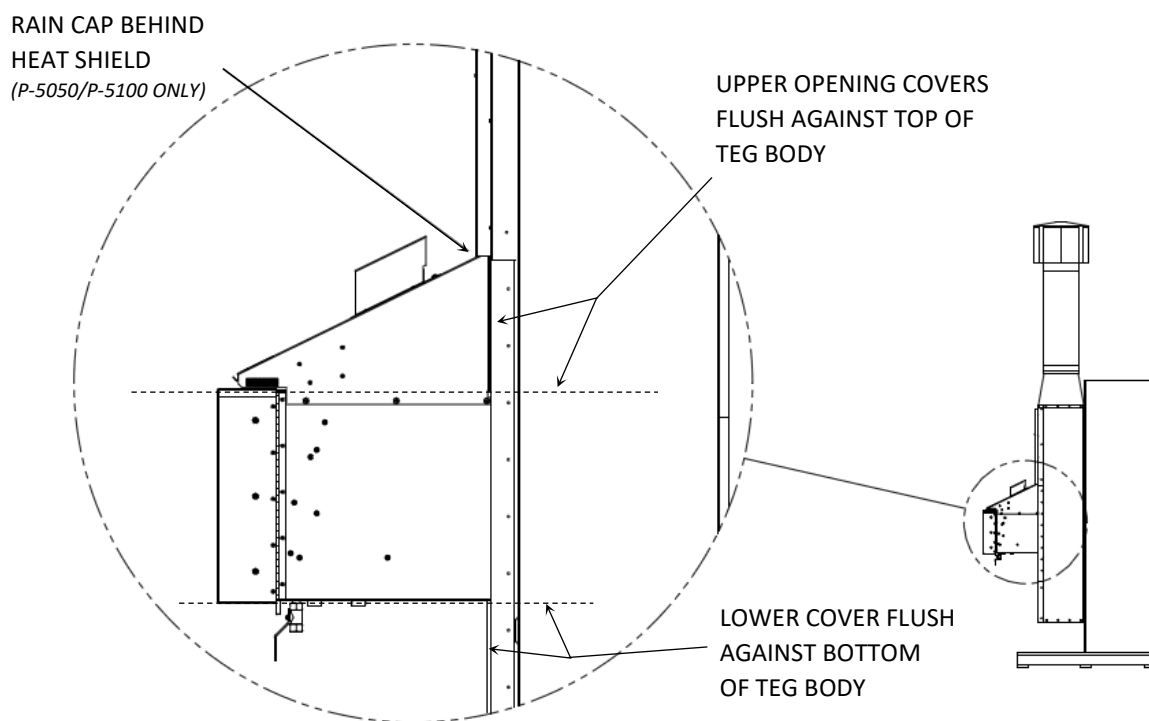

Figure 5 – Frontside Installation Details
1. If it was removed in prior steps or came uninstalled, locate the Heat Shield Cover (Item H18, Figure 8) with the labels and logo. Install this on the front of the HRS Assembly using the supplied #8 X 3/8" Philips sheet metal screws. See Figure 5 below for reference throughout this section.